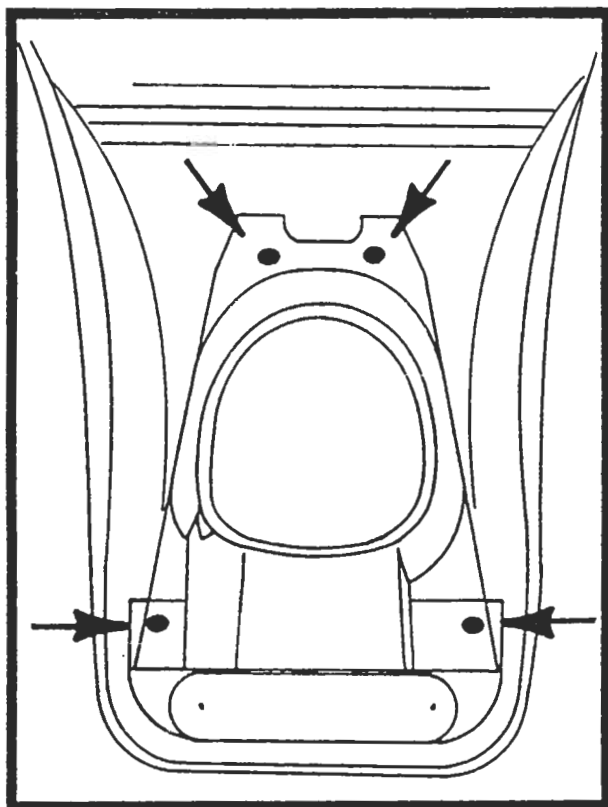

FIGURE 8
A. Install block off (item 8 pg 2) and secure using (4) four # 6 x 1/2" screws. See fig. 8.